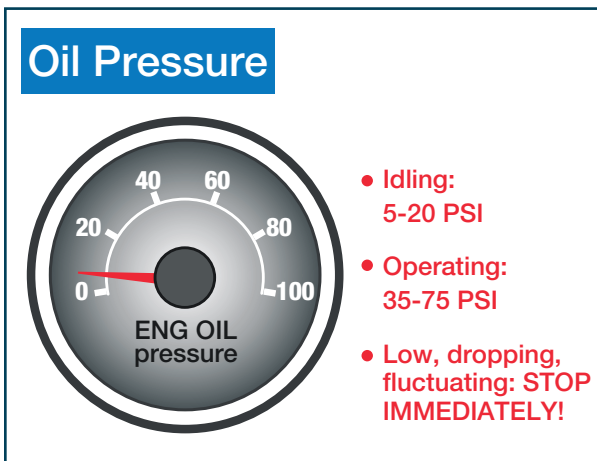

Figure 2.5
- Oil pressure should come up to normal within seconds after engine is started (See Figure 2.5.)